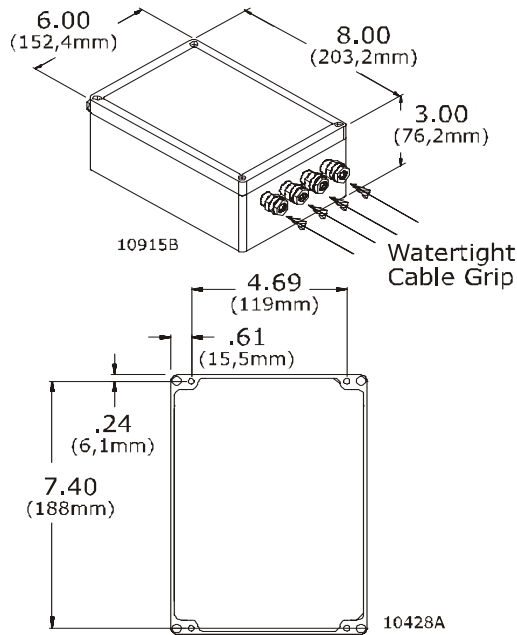

Figure 17: Relay Junction Box Dimensions
Reference Figure 17:.
B) Mount the Relay Junction Box with 4 screws (included with Relay Junction Box). Refer to “Figure 17:” on page 17 for Relay Junction Box dimensions and location of mounting screw holes.